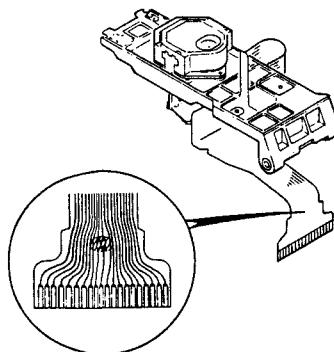

Fig. 4-1
- Before removing the pickup assembly be sure to solder -bridge where indicated in the inset (Fig. 4-1) to prevent the laser diode from being electrostatically damaged. After replacing the pickup assembly, be sure to unsolder the antistatic bridge. Or else the laser diode does not function.